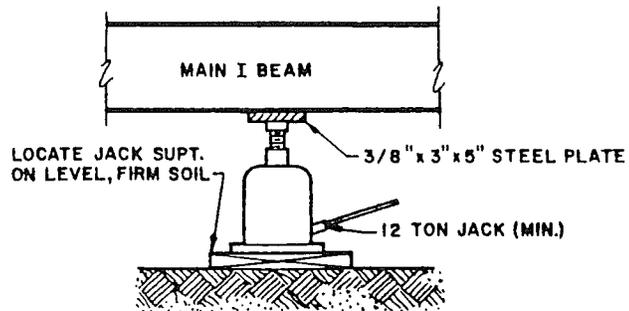

FIG. 3
2. Use a steel plate between the jack and steel I beam to distribute the concentrated loads. See fig. 3.